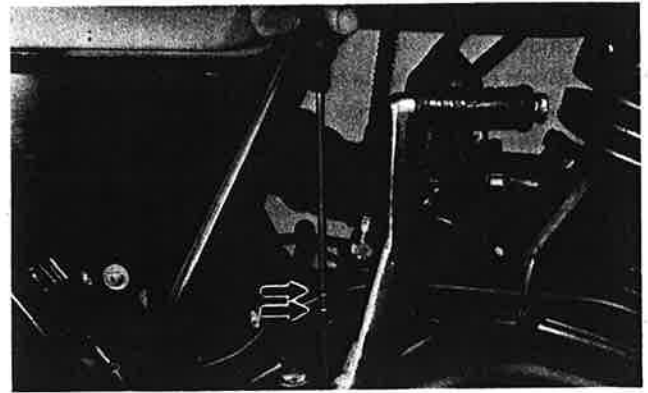

Fig. 2-3-13
- a. The dip stick is located above and slightly in front of the kick crank. To check level, start the engine and let it run for several minutes to warm and distribute oil. Unscrew the dipstick and clean. Set it on the case threads in a level position. Remove and check level. (Fig. 2-3-13)